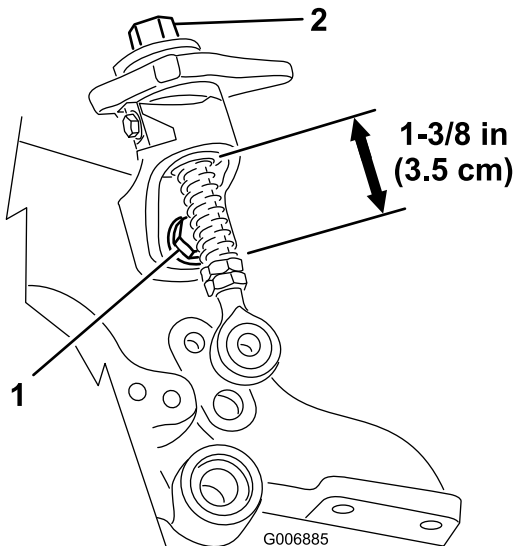

Figure 27
2. Loosen the quick-up mounting bolt and make sure that the threaded rod is in line and not binding on the bottom quick-up ramp (Figure 27). Tighten the bolts.
3. Check the length of the quick-up springs on the threaded rods, the length should be 3.5 cm (1-3/8 inches); refer to Figure 27.
4. If the height-adjuster knob does not rotate freely, the bushing may be dirty (Figure 27). Clean the bushing if necessary.